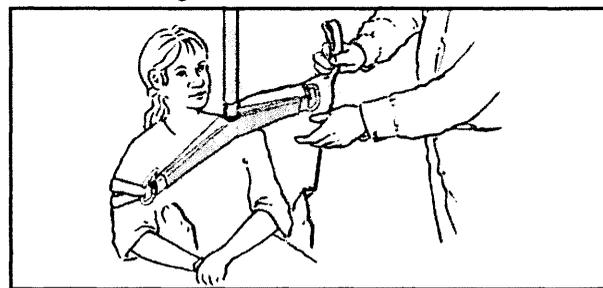

Fig. 17
**WARNING:** Always hold the spreader bar until at least a couple of loops are attached to the spreader bar, to prevent it from striking the patient (see Fig. 17).